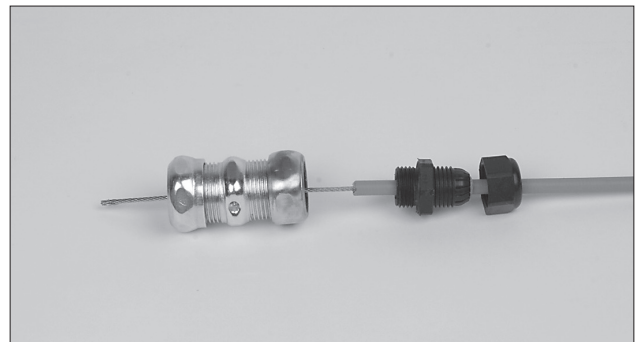

FIGURE 5-99
3. Tighten the compression union nut onto the union body, locking the flexible conduit insert in place. See Figure 5-99.